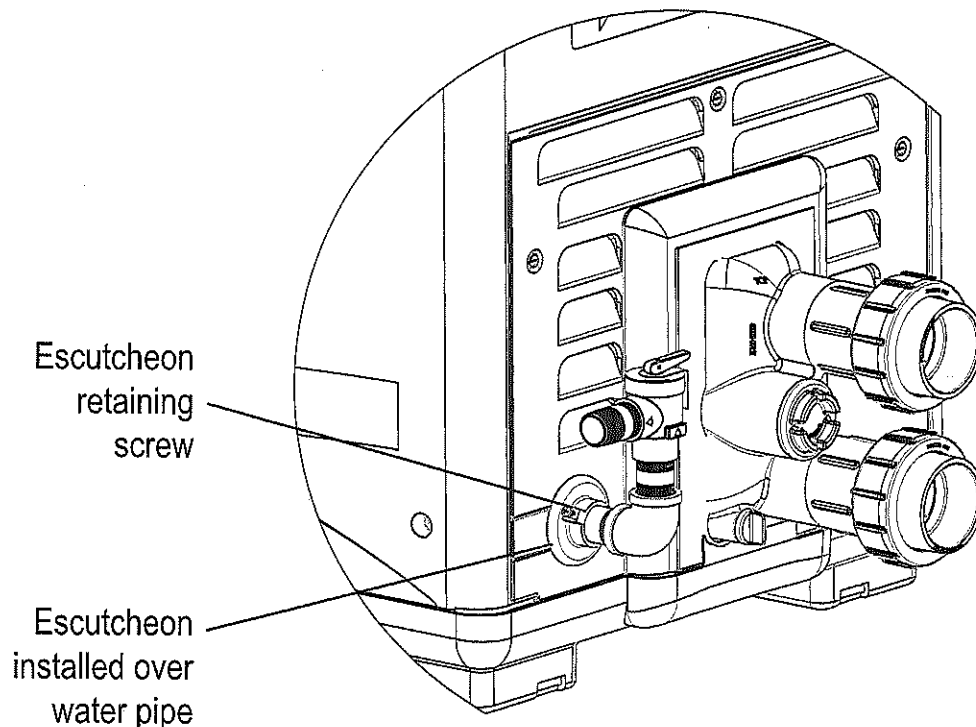

Figure 44. Water Pipe with Escutcheon Installed.
1. Place the water pipe escutcheon over the water pipe, see Figure 44.